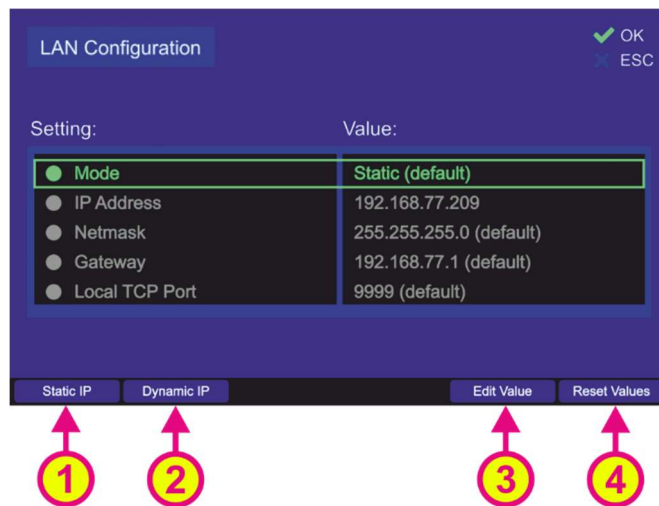
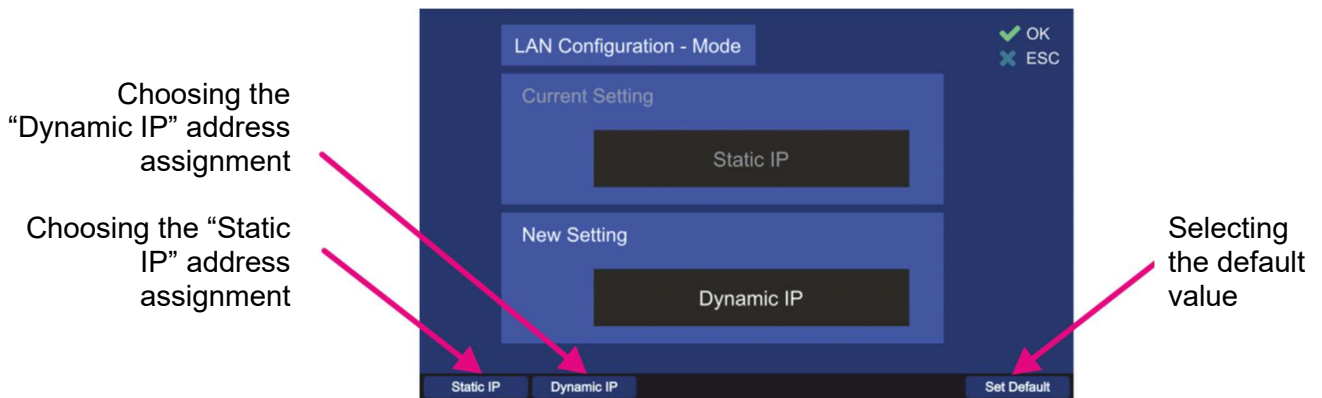
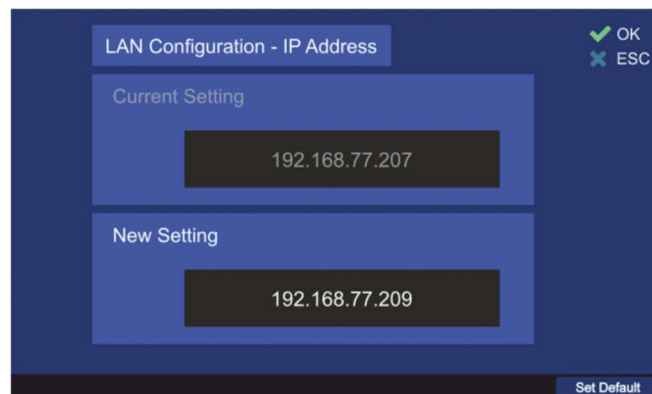

Figure 148. LAN configuration menu
Figure 149. Changing the mode of the IP address assignment
Figure 150. Setting the new IP address
Following sub-menu will appear (s. Figure 148).
Pressing the hotkey “Reset Values” (s. Figure 148, position 4) will set all menu items to the default values.
- IP address assignment can be changed directly using the hotkeys “Static IP” and “Dynamic IP” (positions 1 and 2, s. Figure 148), so that the value of this setting is changed without opening the dialog, or it can be set over the corresponding dialog after pressing the hotkey “Edit Value” (s. Figure 148, position 3) while this menu point is marked, the following dialog opens (s. Figure 149).
- Choose the new setting using one of the hotkeys (s. Figure 149), which will then appear in the “New Setting” field.
- For changing the IP address press the hotkey “Edit Value” while this menu point is marked (s. Figure 148, position 3). Following dialog opens (s. Figure 150).
- For changing the netmask press the hotkey “Edit Value” while this menu point is marked (s. Figure 148, position 3).
- For changing the gateway press the hotkey “Edit Value” while this menu point is marked (s. Figure 148, position 3).
- For changing the port press the hotkey “Edit Value” while this menu point is marked (s. Figure 148, position 3).